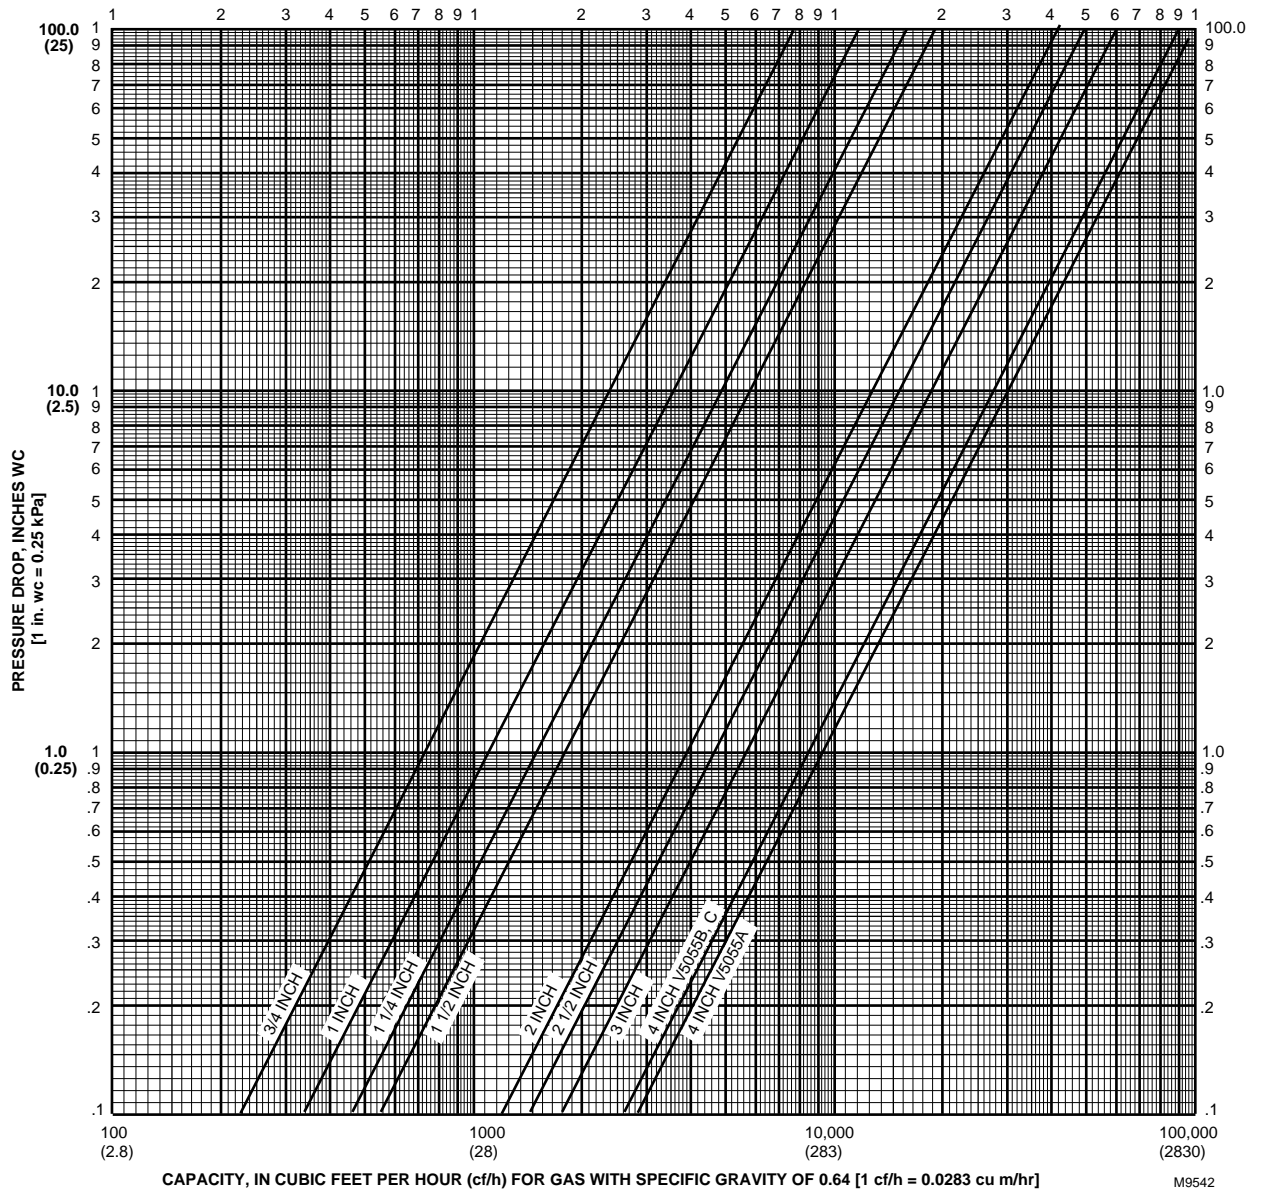

Fig. 1. Flow curves for V5055 Valves.
5. Use the corrected capacity in cf/h when determining the gas valve size in Fig. 1.
6. Determine the maximum pressure drop across the valve and draw a horizontal line at this pressure in Fig. 1.
7. Draw a vertical line in Fig. 1 at the capacity (cf/h) previously determined. Use the corrected capacity for a gas with a specific gravity other than 0.64.
4. Find the valve size from Fig. 1.